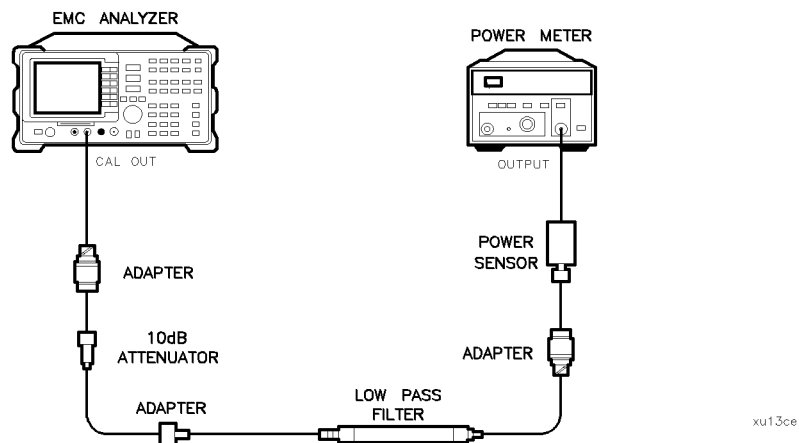

Figure 2-22. Calibrator Amplitude Accuracy Test Setup
11. Connect the equipment as shown in Figure 2-22. The EMC analyzer should be positioned so that the setup of the adapters, LPF and attenuator do not bind. It may be necessary to support the center of gravity of the devices.